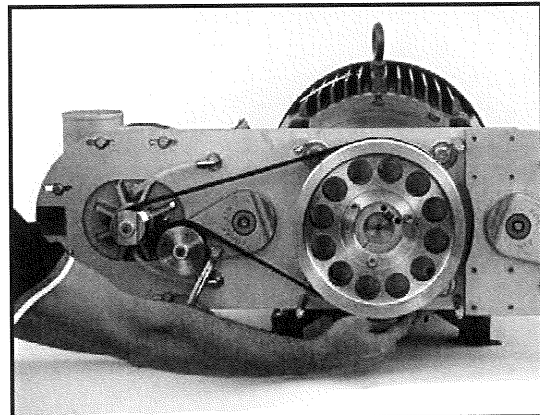

Figure 29 - Remove Belt
2. Using the 9/16 inch box-end wrench, rotate the belt tensioner arm counter clockwise (CCW) and remove the belt. (See Figure 29)